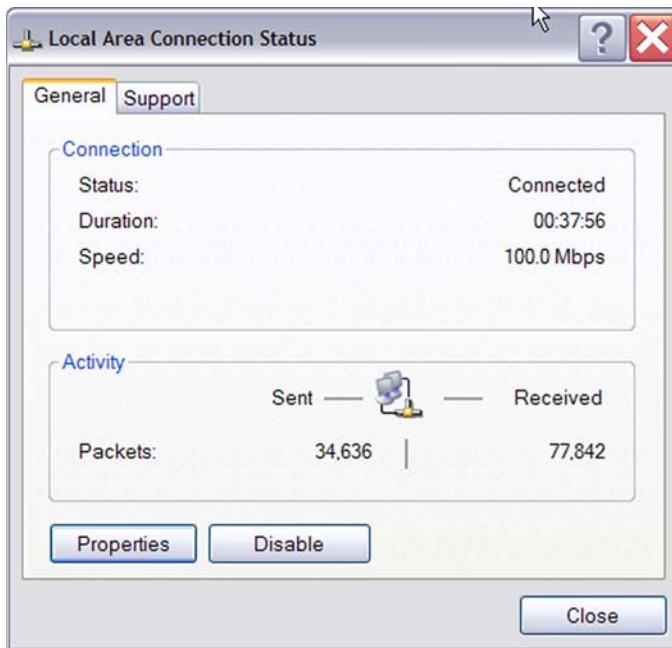

Figure 8. The Local Area Connection Status Dialog
2. In the panel labeled LAN or High-Speed Internet, double-click the Local Area Connection icon. The Local Area Connection Status dialog box appears (Figure 8).